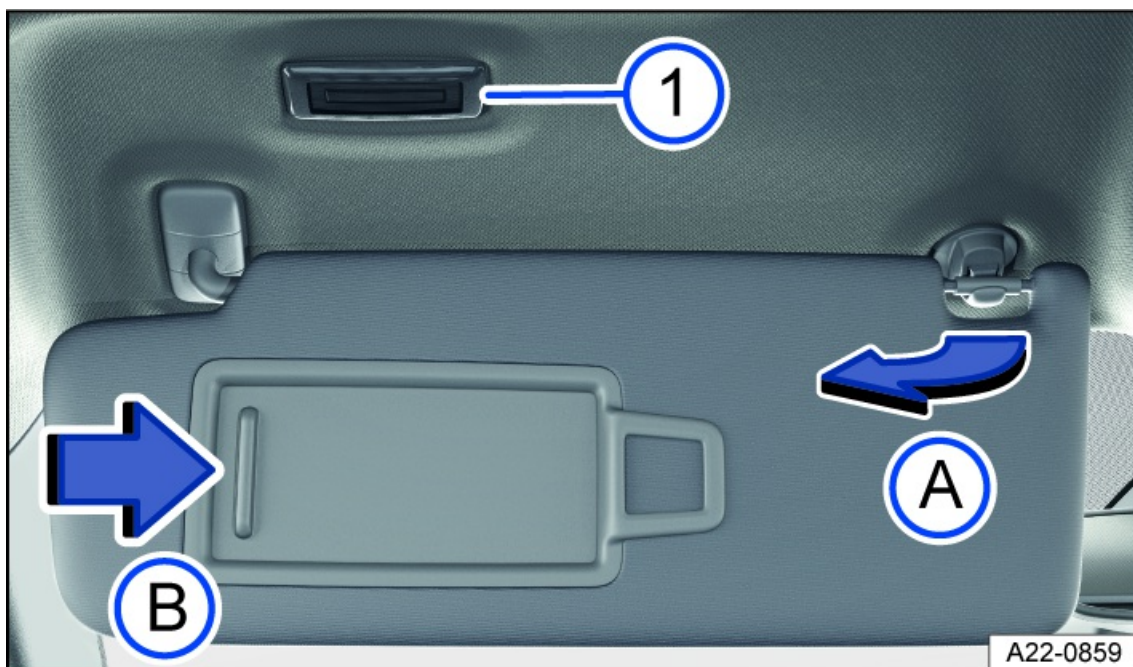

Fig. 88 In the front of the headliner: sun visor.
- Remove from the holder and tilt toward the door *fig. 88*.
When the sun visor is folded down, there is a vanity mirror located behind a cover. The lights *fig. 88* turn on when the cover *fig. 88* slides open.